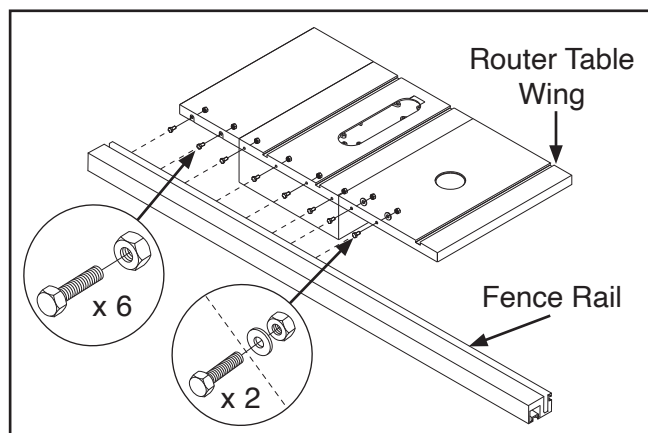

Figure 17. Attaching front rail to extension table, main table, and router wing table.
11. Insert (2) M8-1.25 x 16 hex bolts (see **Figure 17** on **Page 15**) into T-slot on right-hand side of front rail.
12. Align (8) hex bolts in fence rail with holes in left extension wing, main table, and router table wing, then secure with (6 of 8) hex nuts removed in **Step 4**, (2) 8mm flat washers and (2) M8-1.25 hex nuts (see **Figure 17**). Hand-tighten for now.